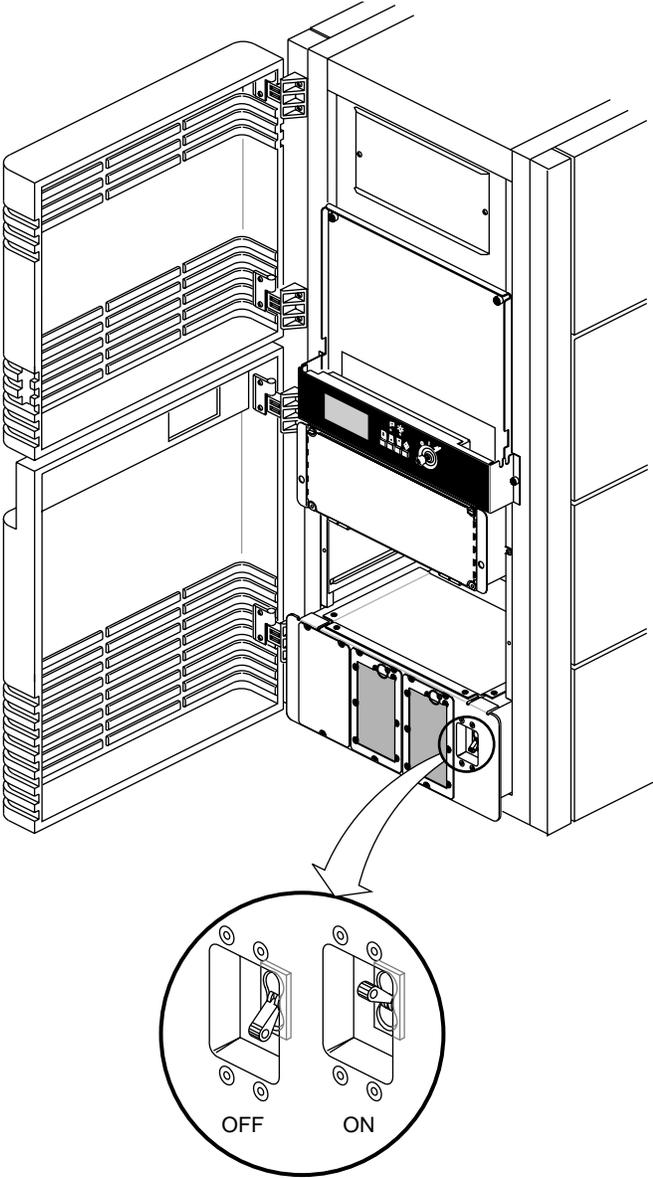

Figure 3-9 Power Switch
6. Turn on the system power switch (see Figure 3-9).